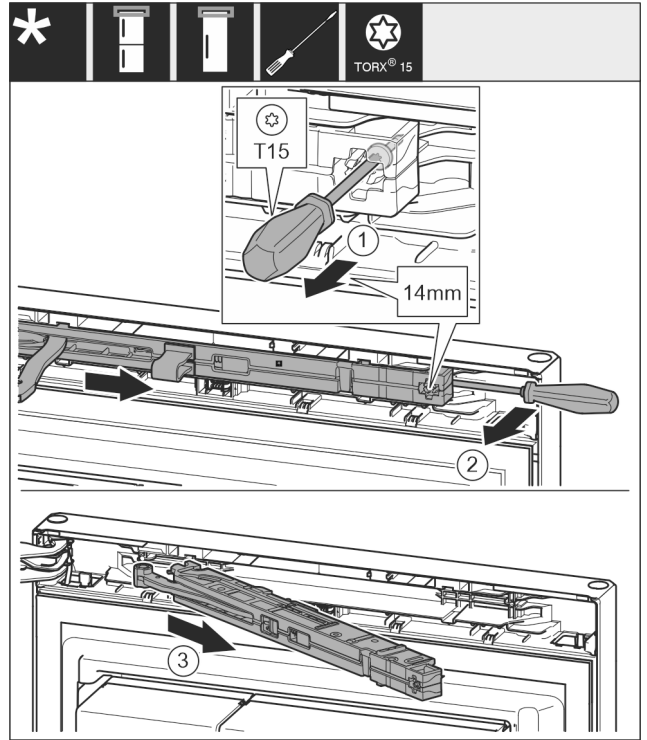

Fig. 11
- ▶ Undo the soft stop unit screw with a T15 screwdriver approx. 14 mm. *Fig. 11 (1)*
- ▶ Insert a screwdriver behind the soft stop mechanism on the handle side and rotate the unit forwards. *Fig. 11 (2)*
- ▶ Pull out the soft stop unit. *Fig. 11 (3)*